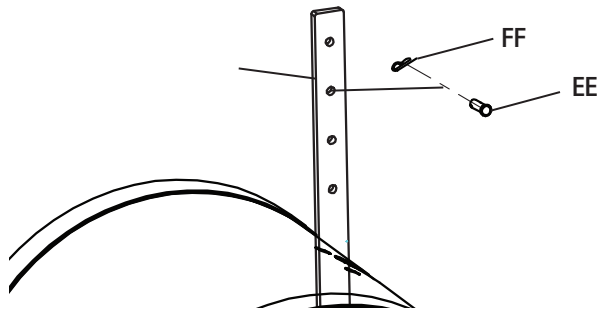

Figure 1-11
- Adjust the depth regulator lever to desired tilling depth. Insert the clevis (EE) and cotter pin (FF) to secure depth regulator to desired depth. See Figure 1-11.